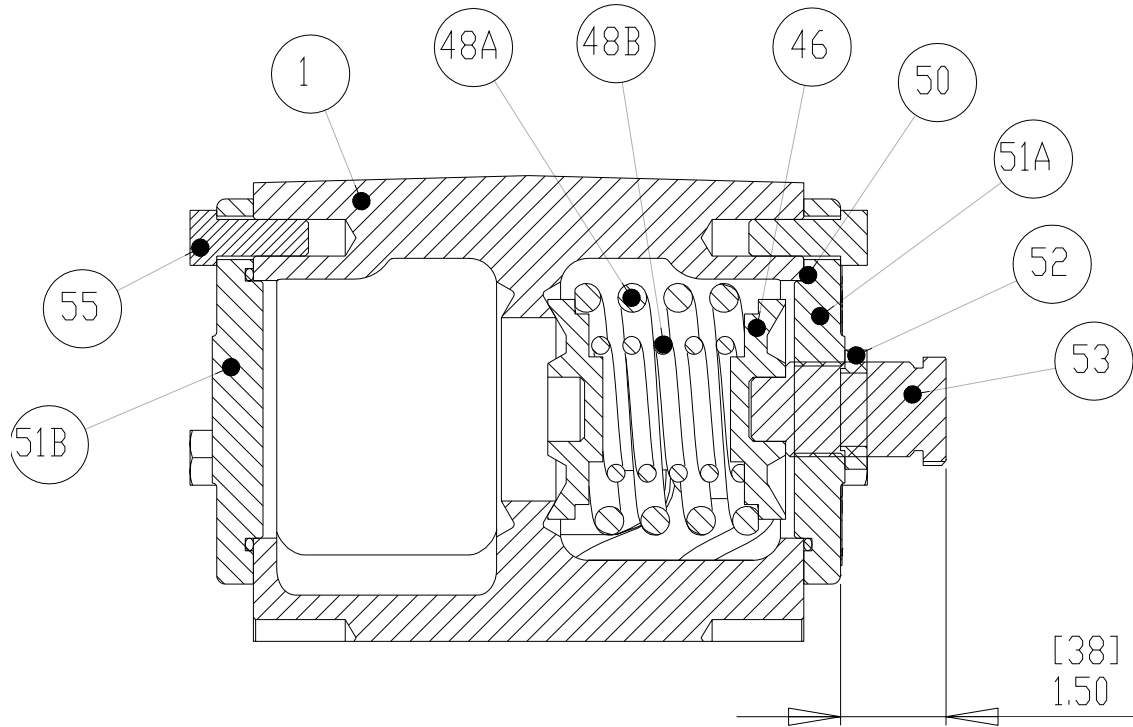

Figure 3.4.4
Refer to the sectional drawing (Figure 3.4.4).
If the relief valve position needs to be changed, follow the instructions below and refer to Section 3.10, **PUMP SECTIONAL DRAWINGS** (Figure 3.10.1) and the **RV STYLE RELIEF VALVE** (Figure 3.4.4).
Refer to Section 3.10, **PUMP SECTIONAL DRAWINGS** (figure 3.10.1) and the **RELIEF VALVE** (figure 3.4.4) for correct pump configuration.
Refer to the sectional drawing, Figure 3.4.4., **RELIEF VALVE**.
2. Loosen locknut (52) on the adjusting screw (53).
3. Back adjusting screw (53) out to point where end of adjusting screw will be 1-1/2 inches [38mm] from relief valve cap (51A). See **RELIEF VALVE** (Figure 3.4.4).